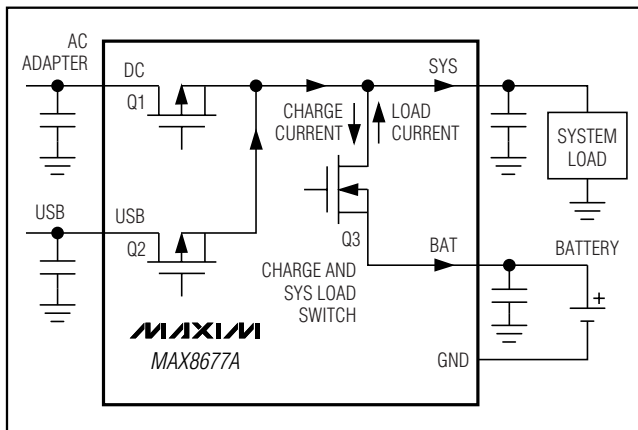

Figure 4. Smart Power Selector Block Diagram
The MAX8677A Smart Power Selector seamlessly distributes power between the external inputs, the battery, and the system load (Figure 4). The basic functions performed are:
An internal 40mΩ MOSFET connects SYS to BAT (Q3, Figure 4) when no voltage source is available at DC or USB. When an external source is detected at DC or USB, this switch is opened and SYS is powered from the valid input source through the input limiter.
The input voltage limiter is essentially an LDO regulator designed to run in dropout. While in dropout, the regulator dissipates a small I^2R loss through the 0.2Ω MOSFET (Q1, Figure 4) between DC and SYS. With an AC adapter or USB source connected, the input limiter distributes power from the external power source to the system load and battery charger. In addition to the input limiter's primary function of passing power to the system and charger loads at SYS, it performs several additional functions to optimize use of available power:
- **Input Voltage Limiting.** If an input voltage is above the overvoltage threshold (6.9V typ), the MAX8677A enters overvoltage lockout (OVLO). OVLO protects the MAX8677A and downstream circuitry from high-voltage stress up to 14V at DC and 8V at USB. In OVLO, VL remains on, the input switch that sees overvoltage (Q1, Q3, Figure 4) opens, and the appropriate power-monitor output (\overline{DOK} , \overline{UOK}) is high impedance, and \overline{CHG} is high impedance.
If both DC and USB see overvoltage, both input switches (Q1 and Q2, Figure 4) open and the charger turns off. The BAT-SYS switch (Q3, Figure 4) closes, allowing the battery to power SYS.
An input is also invalid if it is less than BAT, or less than the DC undervoltage threshold of 3.5V (falling). With an invalid input voltage, SYS connects to BAT through a $40m\Omega$ switch (Q3, Figure 4).
The total current through the switch (Q1 or Q2 in Figure 4) is the sum of the load current at SYS and the battery charging current. The limiter clamps at 5.3V, so input voltages greater than 5.3V can increase power dissipation in the limiter. The limiter power loss is $(V_{DC} - 5.3) \times I$, but not less than $I^2 \times 0.2\Omega$. Also note that the MAX8677A turns off any input that exceeds 6.9V (nominal).